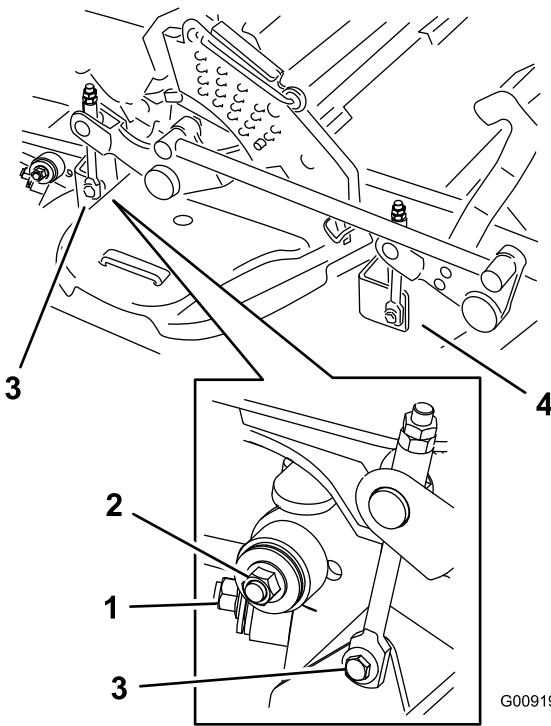
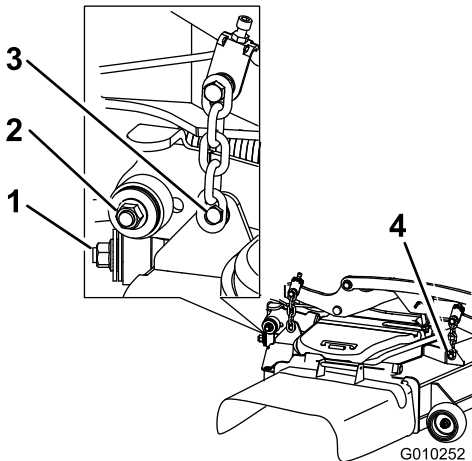

Figure 104
Figure 105
7. Remove and retain the hardware on both sides of the deck as shown in Figure 104 or Figure 105.